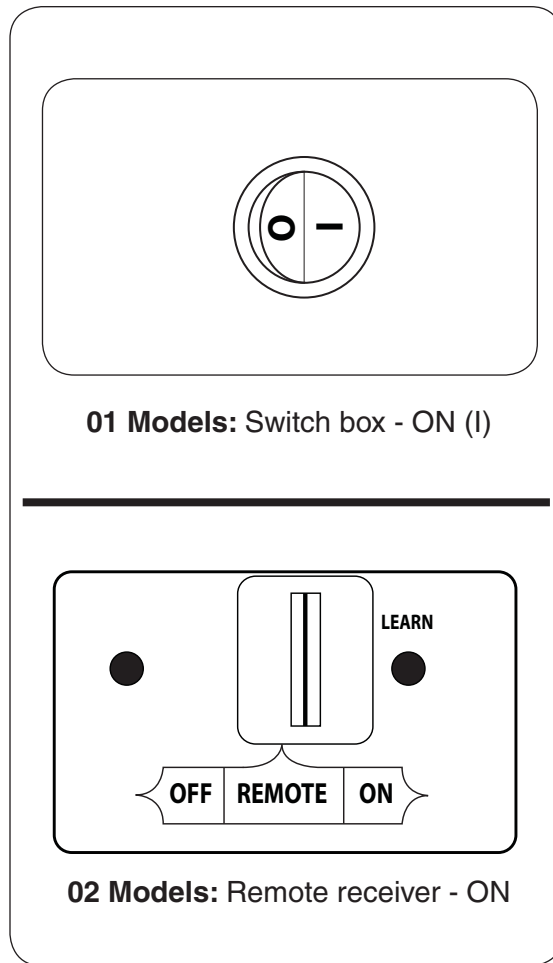

Fig. 31-1 Manual lighting
1. 01 Models: Locate the ON/OFF switch at the front of the switch box. Press the switch to the **ON (I)** position. See Fig. 31-1.
02 Models: Locate the 3-position switch on the remote receiver (see Fig. 31-1), and slide the switch to the **ON** position.